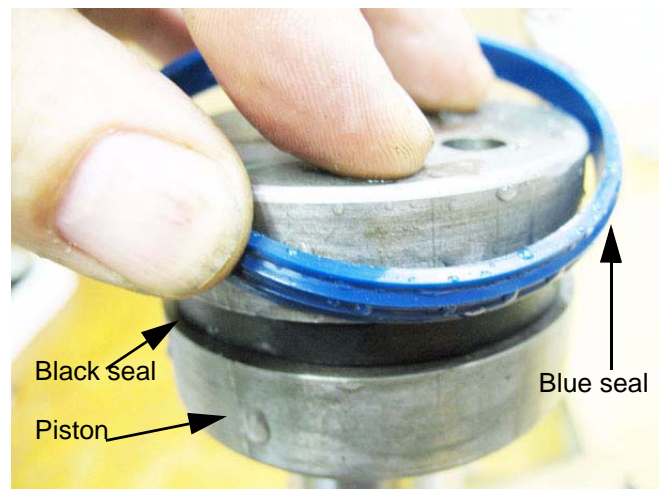

Figure 5.24
3.21. Slip the blue outer seal into the groove, on top of the seal back-up. See Figure 5.24.